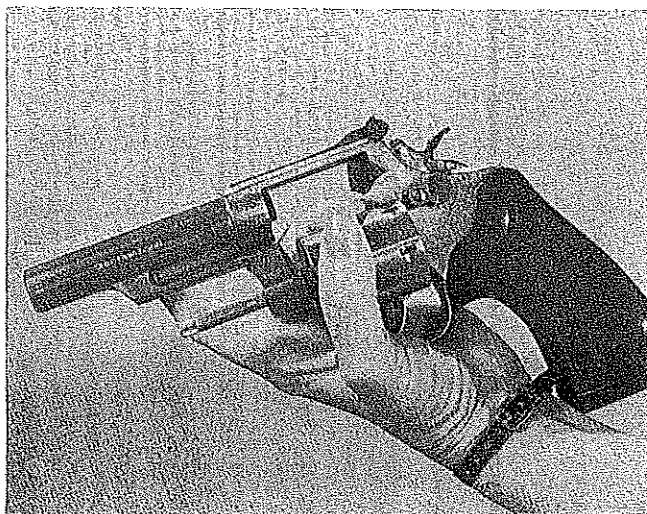

FIGURE 20
2. With the middle and ring finger of the left hand, push the cylinder and follow it through the frame, using the thumb on the right hand to operate the cylinder latch. (Figure 20)